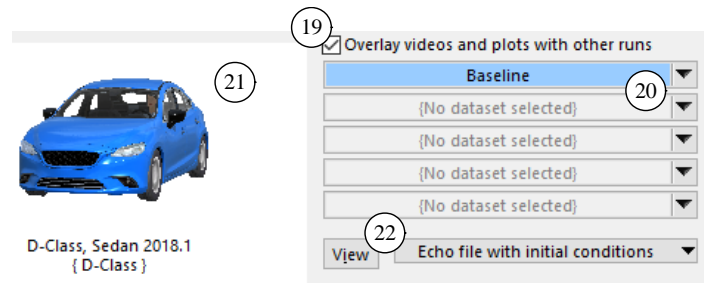

Figure 14. Overlaying results from multiple runs.
- ①⑨ **Overlay videos and plots with other runs** checkbox. VS Visualizer supports overlays from multiple runs for both video and plotting. If this box is checked (Figure 14), then five links are displayed that can be used to specify other runs ②①.